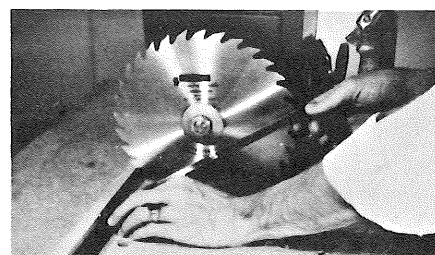

FIG. 36
1. Place a carpenter's square against the fence and the blade as shown. Do not allow the square to rest on the blade teeth. Fig. 36.